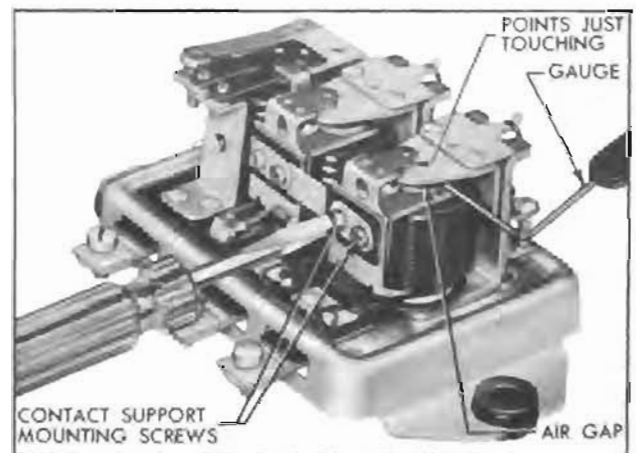

Figure 10-27—Adjustment of Voltage Regulator Air Gap
2. Adjust air gap on each unit, if necessary, by loosening contact support mounting screws and raising or lowering support as required. Be sure points are lined up when tightening screws, then recheck gap after adjustment. See figure 10-27.